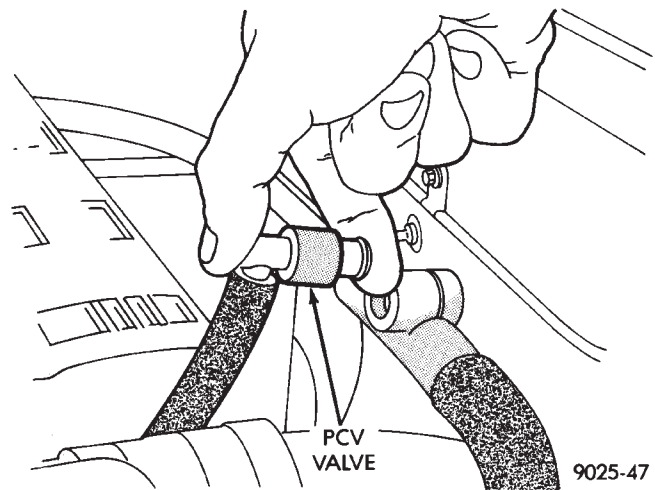

Fig. 14 PCV Valve Test
- (3) If card does not hold to end of inlet hose, disconnect PCV valve from cylinder head cover or adapter. Vacuum hissing sound should be heard and engine should run steady. Place a finger over end of PCV valve (Fig. 14). The check valve in the PCV valve should click and rattle when PCV valve is shaken.
- (4) Remove PCV valve from vacuum source hose. The engine should run very erratically or stall. If not, a vacuum restriction or blockage exists at the vacuum source.